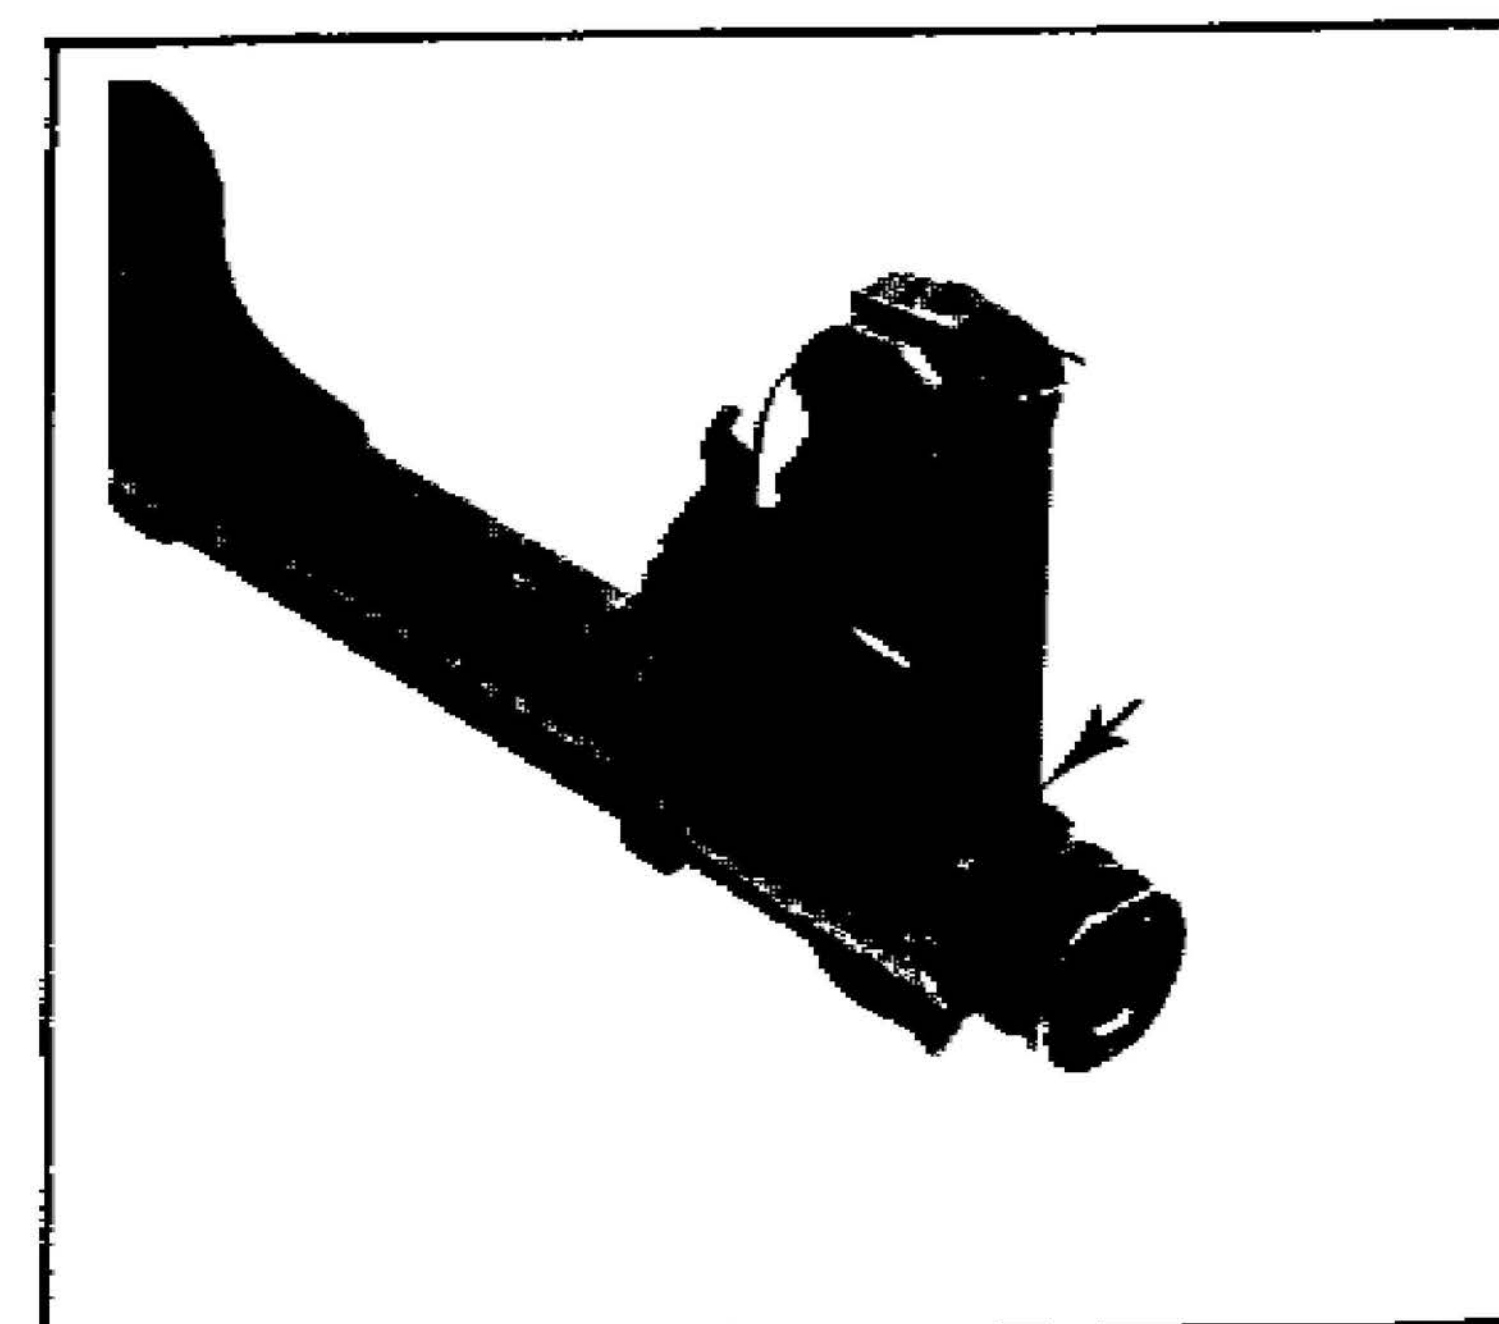
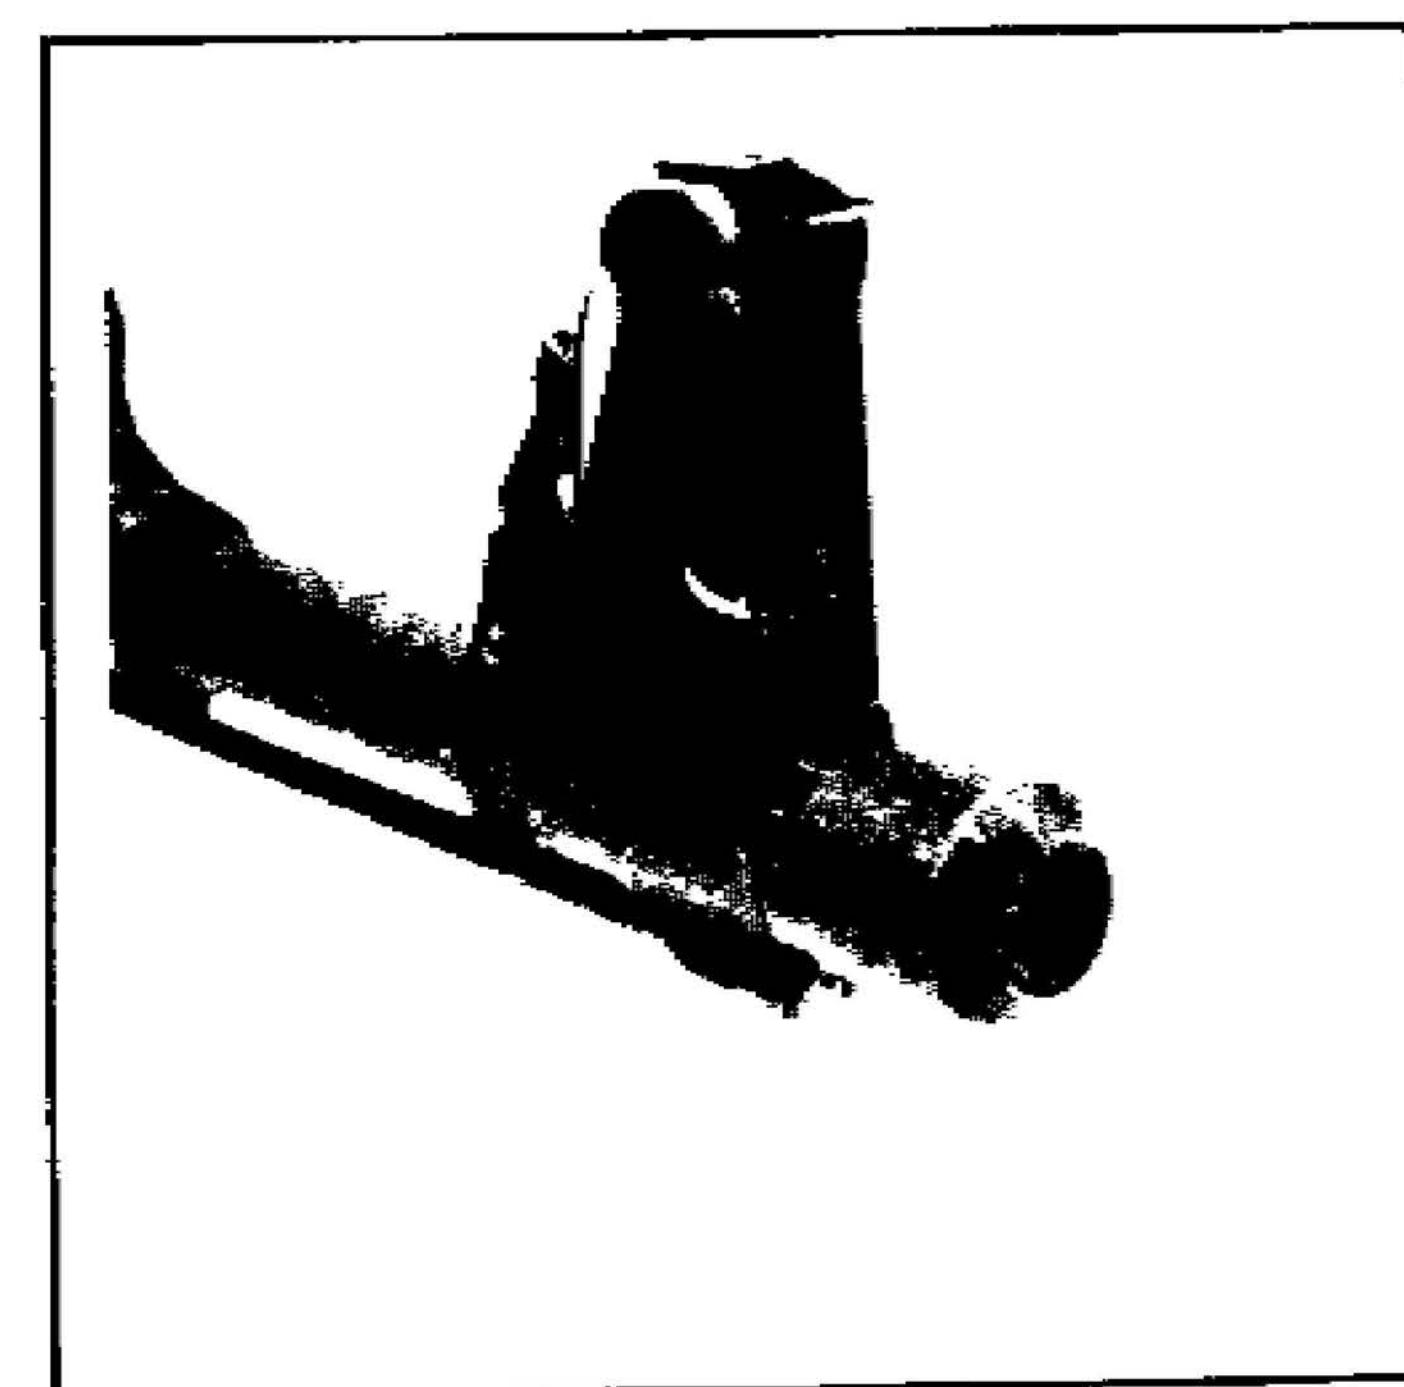

FIGURE 51. LOCKING PLUNGER
FIGURE 52. BLANK FIRING DEVICE
**Blank firing device:** The blank firing device is installed by pressing in the muzzle nut locking plunger (fig 51), unscrewing the muzzle nut by turning it clockwise and replacing it with the device (fig 52). It is removed the same way as the muzzle nut.